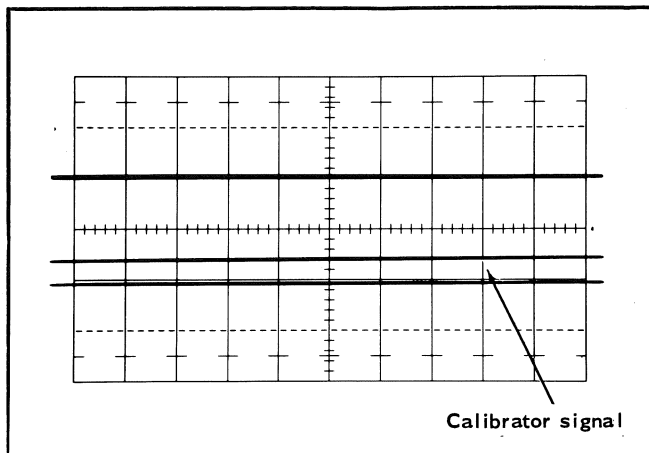

Fig. 5-1. Alternate-trace display with signal applied to EXT INPUT.
- Check—Two traces should appear at all switch positions, only one of which will show the standard amplitude calibrator signal. See Fig. 5-1.